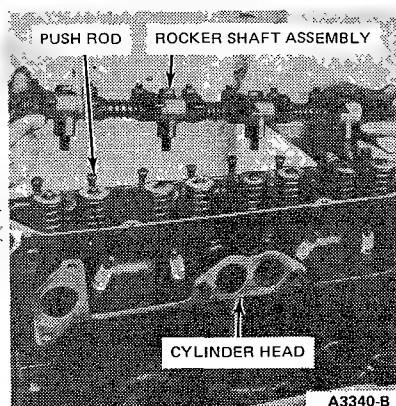

FIG. 28 Removing or Installing Rocker Arm Assembly
4. Remove the rocker arm shaft attaching bolts evenly and lift off the rocker arm shaft assembly (Figure 28).
push rod ends with Lubriplate or equivalent. Position the rocker shaft assembly on the cylinder head (Figure 28) engaging the push rods with the adjusting screws. Install and tighten the bolts evenly to specifications.